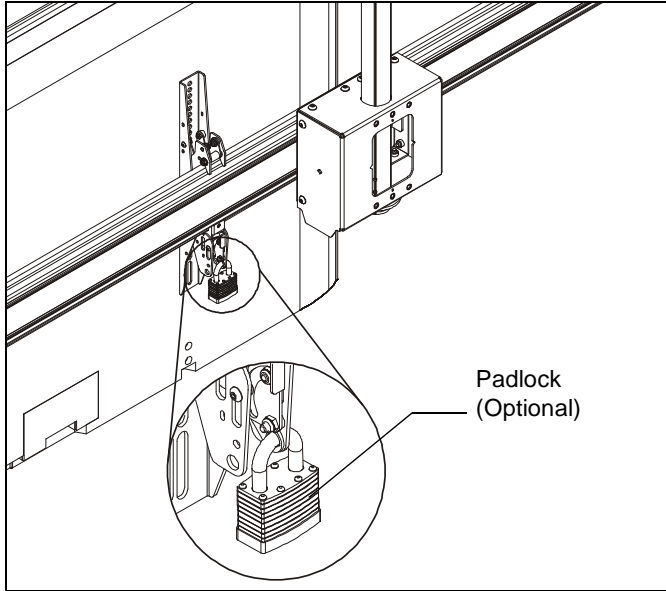

Figure 14
1. **OPTIONAL:** Add padlock (not included) to each interface bracket to lock display to ceiling mount. (See Figure 14)